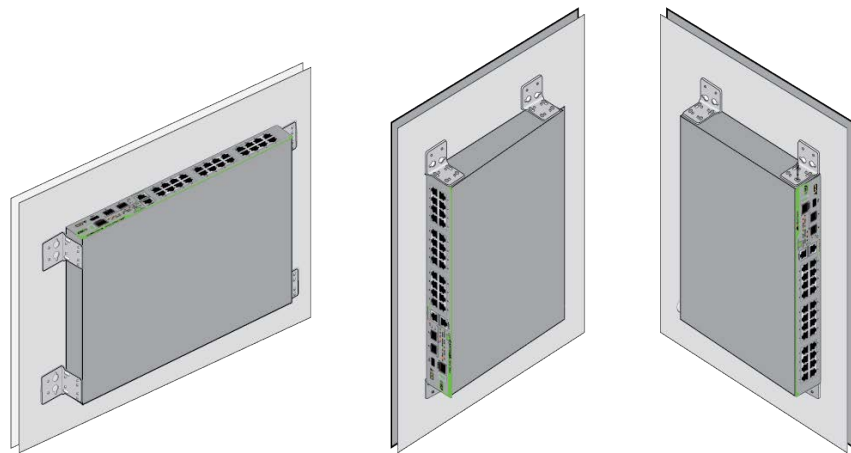

Figure 55. GS970EMX/20 and GS970EMX/28 Switches on a Wall with the BRKT-J24 Brackets Kit
- ❑ You can install the switches with the front panels facing up, left or right. Refer to Figure 55.